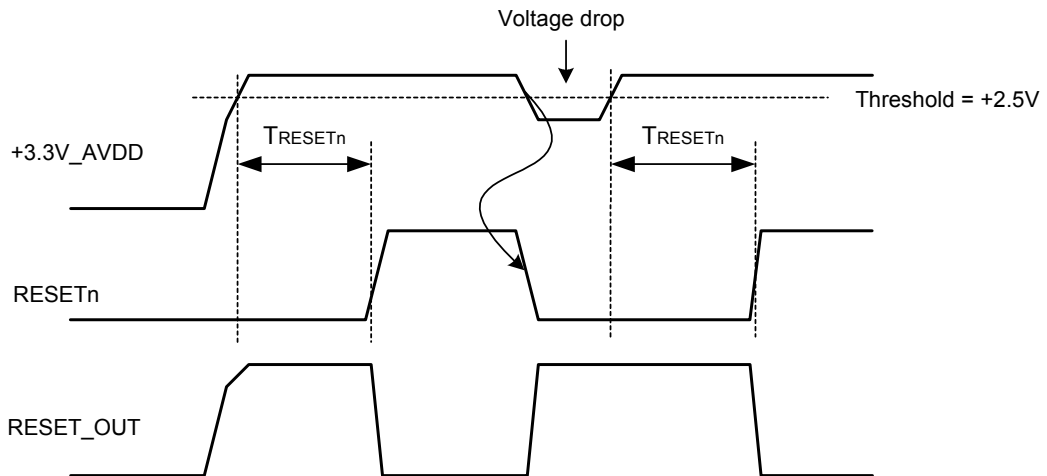

Figure 12. Reset Signal Timing ($T_{RESETrn}$)
- When +3.3V_AVDD drops below 2.5V a reset signal is generated. The reset signal gets de-asserted about 120ms after the input voltage rises above the 2.5V threshold (see figure 12).